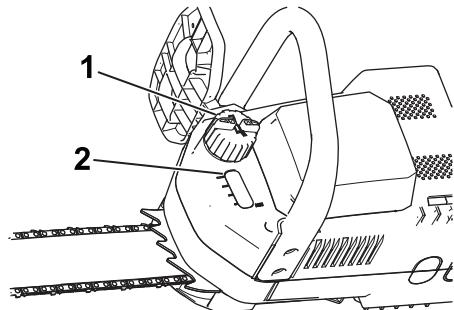

Figure 27
2. Check the oil level in the window. If you cannot see oil in the window, add bar and chain oil to the chain saw (Figure 27).
3. Clean the area around the oil cap (Figure 27).
4. Remove the cap and pour oil into the chain saw until the oil fills the window (Figure 27).